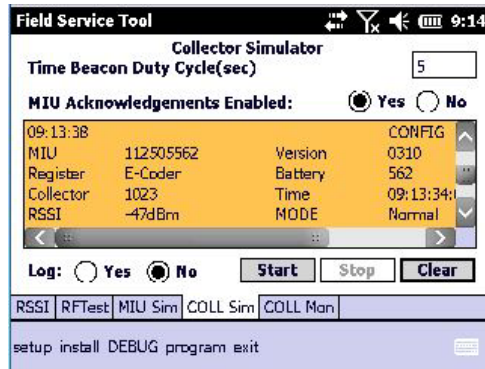

Figure 3.22 Collector Simulator Response Screen
- 5 Press **Start** to begin the Collector Simulator. Figure 3.22 appears.